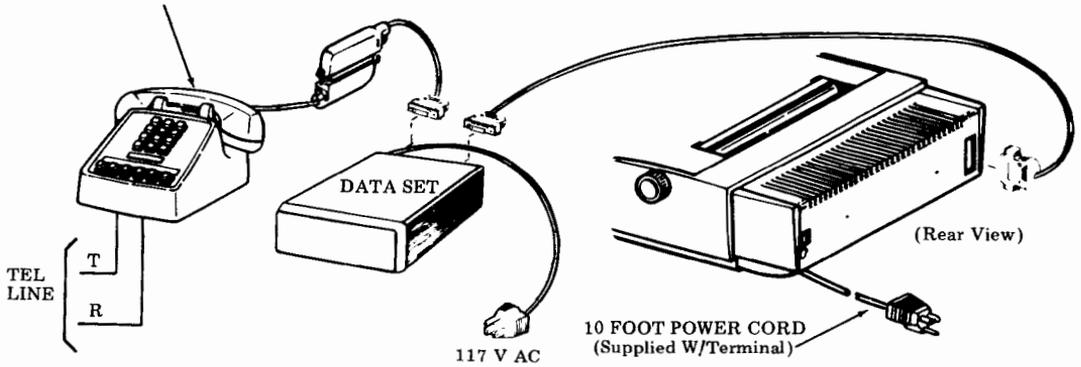

Fig. 5 -- Data Set Connection (Set W/TAU or TAU1)
5.13 The connection to the data set and telephone (if required) should be performed following the instructions for the particular data set involved (Fig. 5).